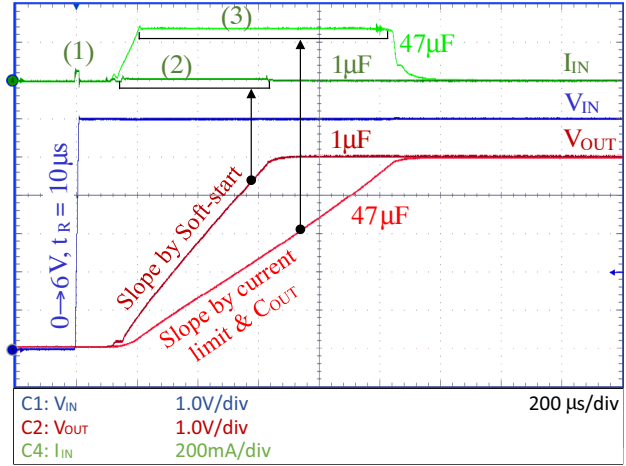

Figure 76.
Now back to LDO application. Here we can see two different inrush current spikes. The first one is caused by the LDO's input capacitor (C_{IN}) charging from zero to the input voltage level. It happens when the previous power block (for example DC/DC) starts providing the input voltage to the LDO circuit. The maximum level of this inrush current is given by Equation 16. It doesn't matter if LDO is enabled or disabled as this inrush current spike is related only to C_{IN} and it can't be suppressed by the LDO, it is matter of previous power block. This inrush current spike is shown at Figure 76, point (1).